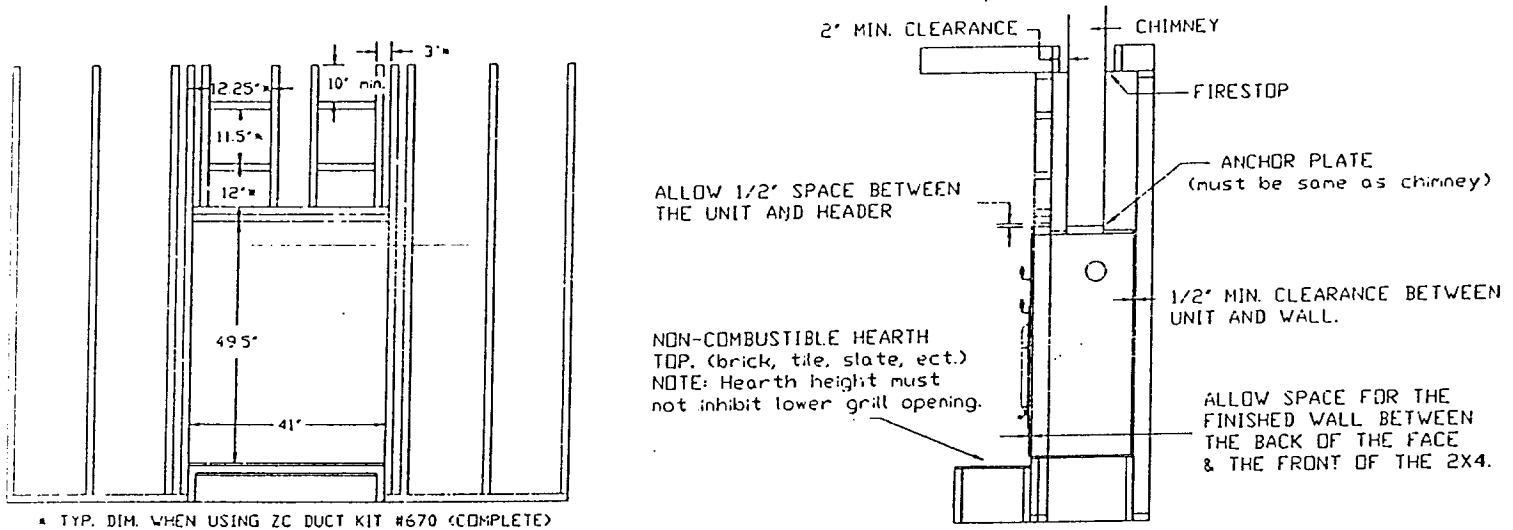

FIG. 9
1. Frame in the fireplace. See Figure 9. Maintain the necessary clearances to combustibles. The framing materials should not come in actual contact with the fireplace. If installing a mantel, (a combustible mantel may be used) maintain a 6" clearance to the upper grill if using both hot air ducts and 11" clearance when no hot air ducts are used. The mantel should be no more than 6" deep.